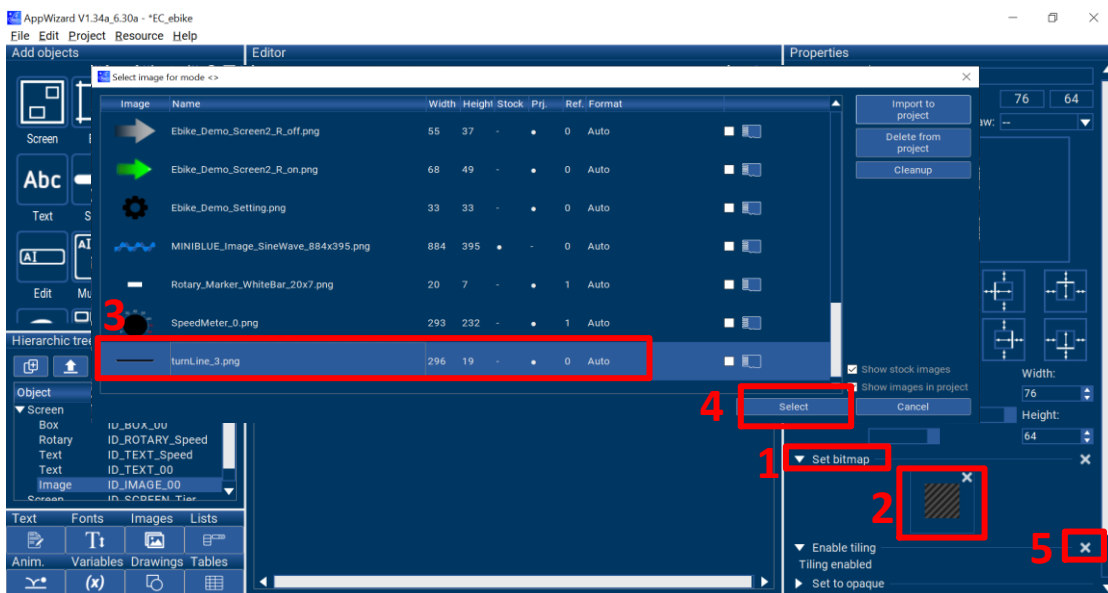

Figure 1-29 Image - Properties - Bitmap
- 1) Follow the steps shown in Figure 1-29. Click on "Set bitmap" and configure the custom image. Disable the "Enable tiling" option to prevent infinite extension.